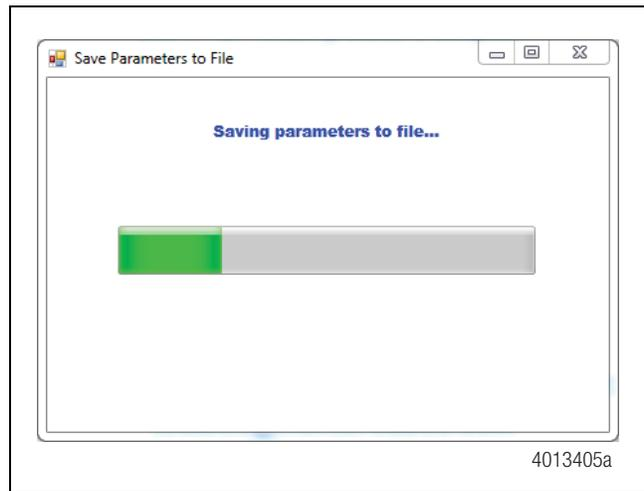

Figure 21
- Once the process is finished, the parameters will automatically be saved. Figure 21 and the following messages will be displayed. Figure 22 and Figure 23. This indicates that the "OnGuard™ Programming Tool" successfully completed the programming and the parameters were automatically saved using the VIN that you entered earlier.